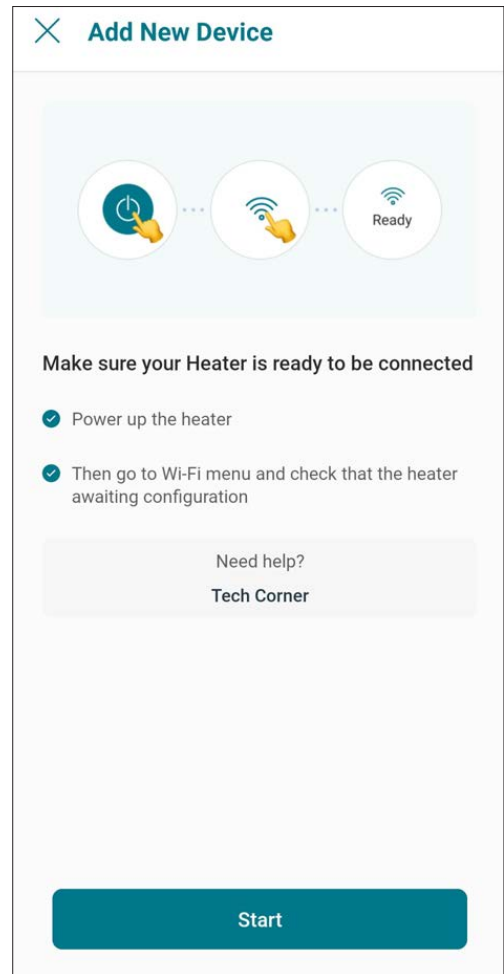

Figure 82. Check your Device
2. "Check your Device" screen will appear. Ensure to have AVIA heater powered and Wi-Fi signal available in the area, then press "Start" button. See Figure 82.